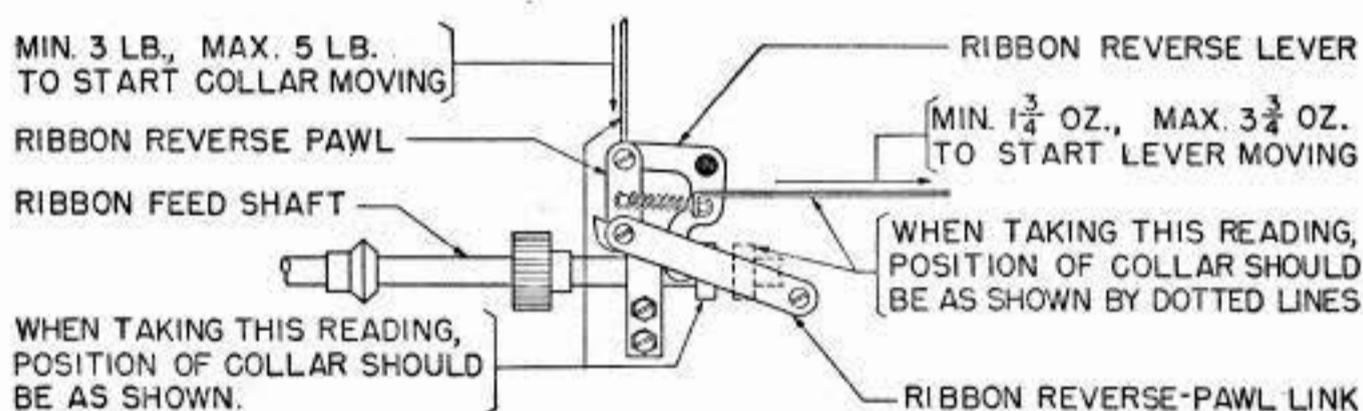
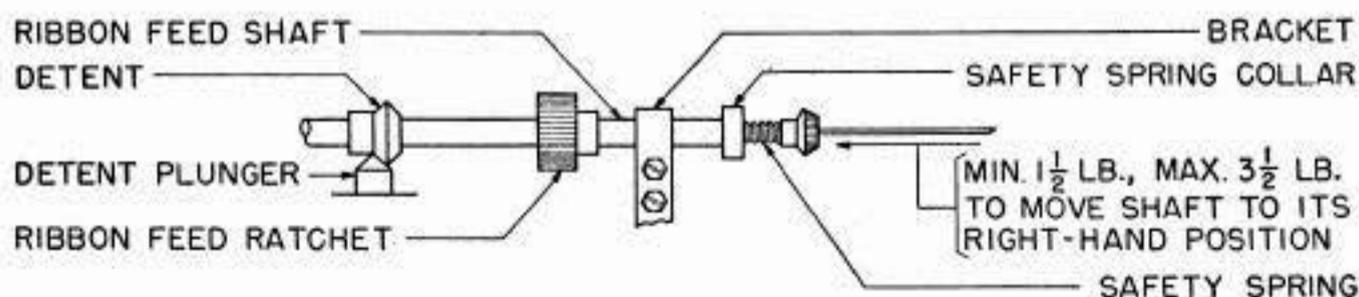

Fig. 18
Fig. 19
2.27 **Ribbon-reverse-pawl links** should not bind on their shoulder screws. **Figs. 18, 16**
With the main bail in its uppermost position and the ribbon-feed shaft held in its left-hand position, it should require Min 3 lb, Max 5 lb to just start the spring collar moving when the push end of the scale is applied to the upper end of the right-hand ribbon-reverse pawl and pushed vertically downward. Check the left safety spring with the ribbon-feed shaft held in its right-hand position and the scale applied to the left-hand ribbon-reverse pawl. See Fig. 18 for position of gauge and Fig. 19 for location of spring. **Figs. 18, 19**
2.29 **Right and Left Ribbon-Reverse-Pawl Spring:** It should require a pull as indicated in Fig. 18 to start the right ribbon-reverse lever moving when the collar on the ribbon-feed shaft is moved away from the ribbon-reverse lever. **Fig. 18**
2.30 **Ribbon-Feed-Shaft Detent-Plunger Spring:** (Remove ribbon-feed pawl and check pawl.) It should require a push as indicated in Fig. 19 to push the ribbon feed-shaft to the opposite side of the plunger. **Fig. 19**